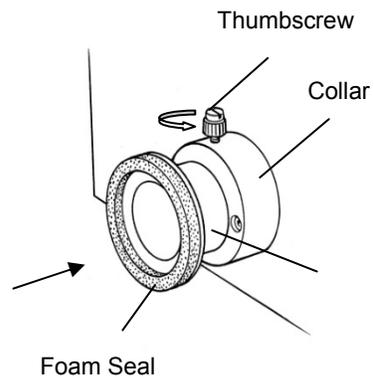

Figure 2 • Sleeves
- Loosen the thumbscrews and push the sleeves out to make a seal with the sides of the sample compartment (Figure 2).